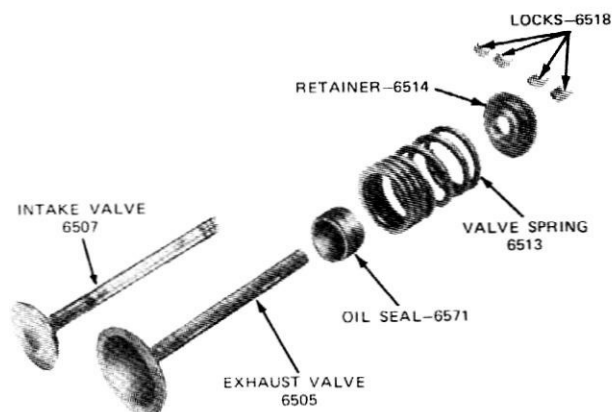

FIG. 48 Valve Assemblies
3. Remove the spring retainer, stem seal, and valve (Fig. 48). Discard the valve stem seals. Identify all valve parts for re-assembly. Remove the manifold assembly and spark plugs.
4. Compress the spring and install the retainer locks (Fig. 48).